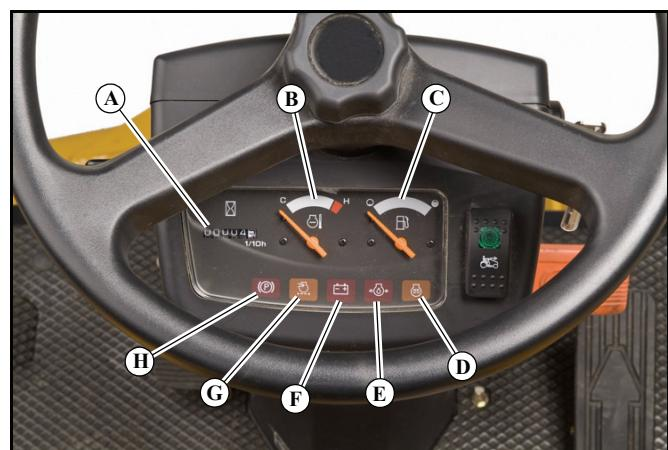

Figure 3-1
A. **Electronic hour meter (Figure 3-1)** — Registers 1/10 hour increments up to 9,999.9 total hours. Connected to the ignition switch, the meter records the accumulative time while the ignition key is switched to the RUN position.
B. **Temperature gauge and alarm (Figure 3-1)** — When the needle is in the middle area, the engine is at its normal operating temperature. When the needle reaches the "H" side of the gauge it indicates the engine coolant has reached an unsafe temperature. If this occurs, shut down the machine as soon as possible. Never risk continued operation; high temperatures can severely damage the engine.
- C. **Fuel gauge (Figure 3-1)** — This gauge indicates the amount of fuel in the tank.
- D. **Glo-plug warning light (Figure 3-1)** — Comes on when turning the key switch to the "HEAT" position or "START" position. This light will stay on for approximately 5 seconds in the "HEAT" Position.
- E. **Oil pressure warning light and alarm (Figure 3-1)** — This light comes on when the ignition switch is placed in the "RUN" position and stays lit until the engine is running and a safe oil pressure is developed. If light comes on during operation, shut engine off immediately and locate and correct the problem. When oil pressure falls below 4.25 psi (29.4 kPa), the alarm buzzer will sound. **IMPORTANT:** The operator must occasionally check the crankcase for proper oil level.
- F. **Charge indicator warning light (Figure 3-1)** — This light comes on when the ignition switch is placed in the "RUN" position and stays lit until the engine is running. If it remains lit the charging system is not operating normally. Investigate the cause as soon as possible, otherwise the battery will fully discharge.
- G. **Air cleaner restriction warning light (Figure 3-1)** — When the air cleaner element is clogged by foreign substances, such as dust, and clean air is restricted to the engine, this light will illuminate. Refer to the *Engine Air Filter* section of this manual for detailed information.
- H. **Parking brake warning light (Figure 3-1)** — When the parking brake is applied, this light will illuminate.